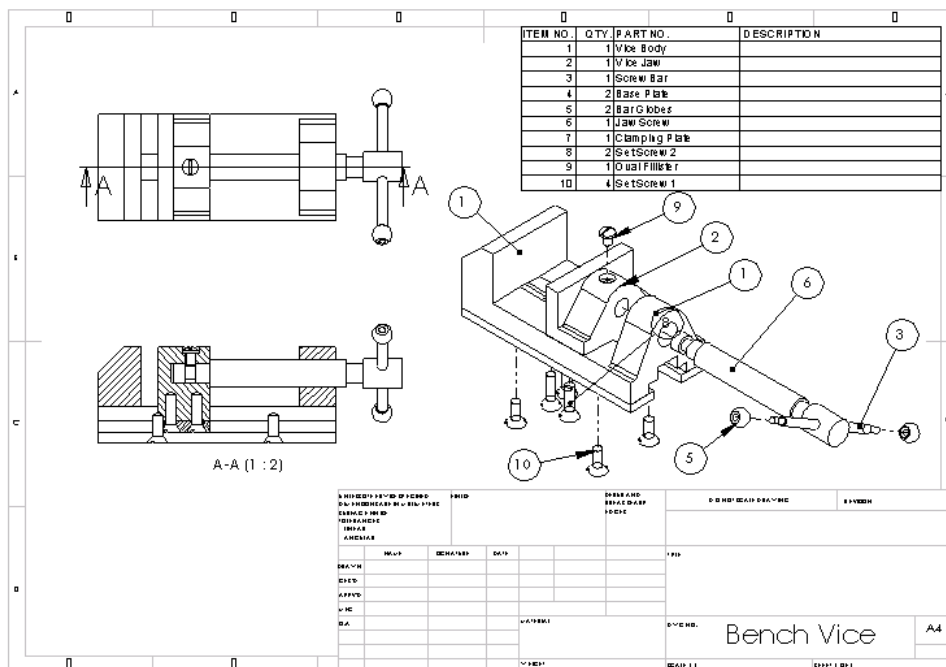

Figure 13-42 Final drawing sheet after adding balloons
- Apply the balloons to the drawing view, refer to Figure 13-42.
4. Similarly, add balloons to all the components in the assembly. You may need to move the balloons, refer to Figure 13-42.
5. Now, drag a window and select all the balloons. Select the **Tight Fit** option from the **Size** drop-down list in the **Balloon PropertyManager**. The final drawing sheet after adding balloons to the drawing view is shown in Figure 13-42.